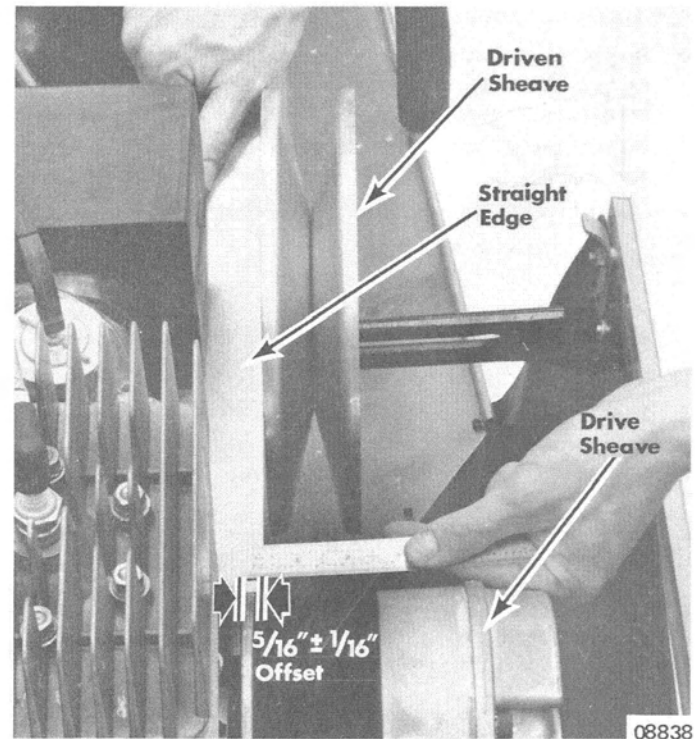

Figure 1. Arctic Drive/Salsbury Driven - Alignment
2. Place a straight-edge across inside surfaces of driven sheave and extend over to drive sheave. Measure driven sheave "offset" as shown in Figure 1. Driven sheave is properly aligned when it is "offset"  $5/16"$  (8mm)  $\pm 1/16"$  (1.6mm) from drive sheave.